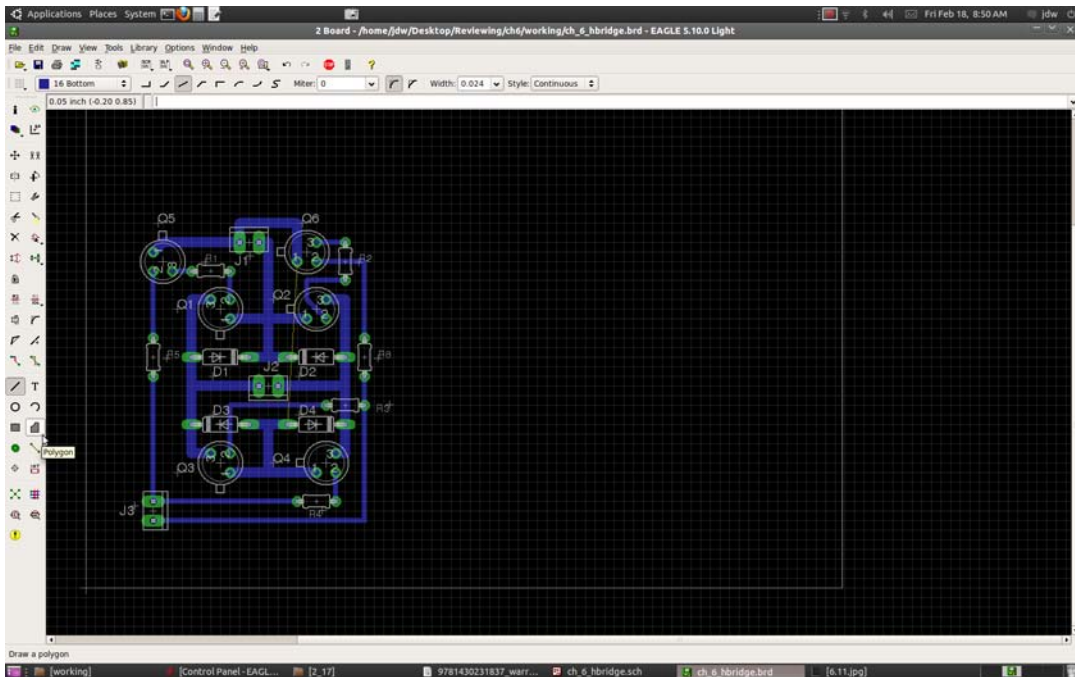

Figure 6-11. Use a smaller wire width to finish the signal traces and then select the Polygon tool to create a Ground plane.
5. **Routing power:** Click the Ratsnest button to remove the yellow virtual wires periodically after replacing them with wire connections. Finish the routing by connecting the remaining wires. You can use the resistors and diodes on this board as bridges to route wires beneath, as done with R2, R3, and D3 in Figure 6-11. You might notice the Ground wire going from Q5 and Q6 to Q3 and Q4 is still unrouted—that wire will be connected using the Ground plane in step 8.
6. **Make a Ground plane:** To fill all empty space on the PCB with a common GND pad of copper, you must select the Polygon tool from the Draw Polygon menu (see Figure 6-11). Upon selecting the Polygon tool, draw a line completely around the circuit, giving a little padding around the edges. To finish the polygon (actually a rectangle in this example), double click at the starting point. When the line is finished, use the Name tool to change the name of the polygon to be the same as the Ground supply, usually GND (see Figure 6-12).